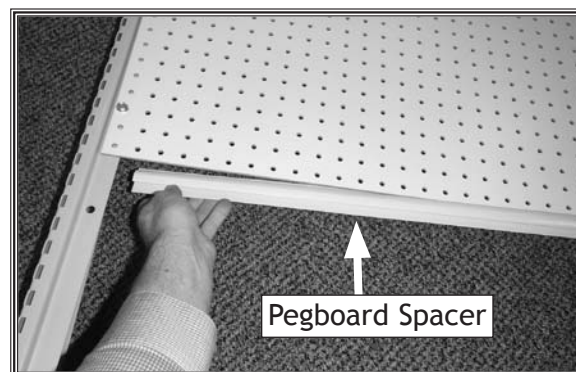

Figure 15. Attaching the pegboard spacer to the top pegboard.
6. Attach a pegboard spacer to the open edge of the pegboard. The spacer should be attached so that the smaller flange goes on top (see **Figure 15**).